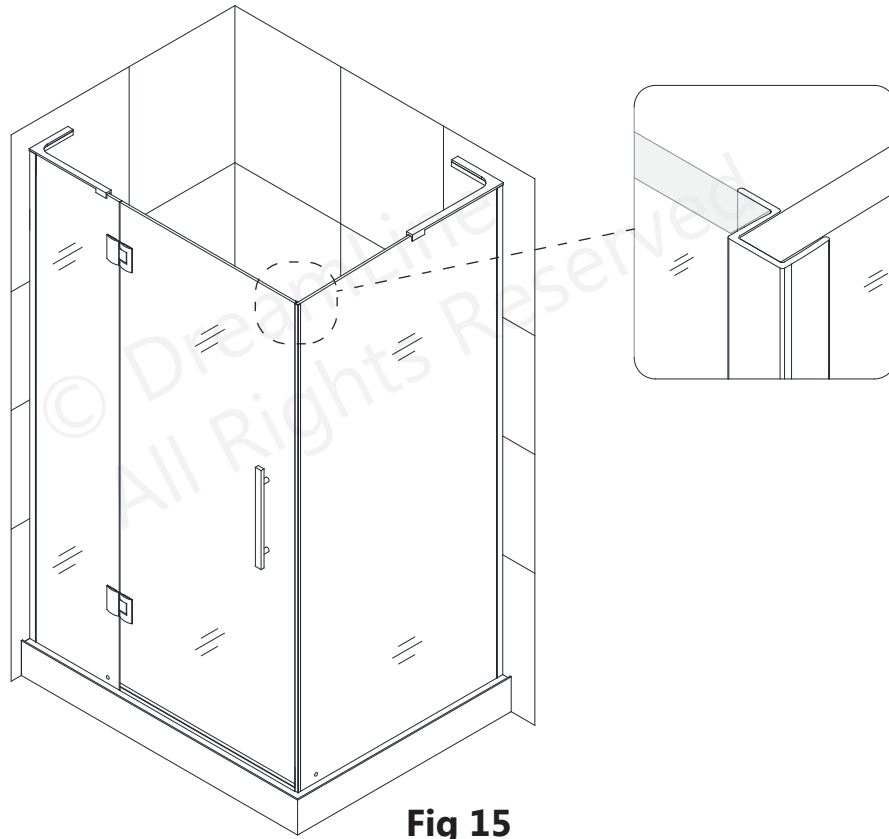

Fig 15
15. Be sure the **Door Glass (#02)** closes evenly and completely against the **Strike Vinyl (#12)**. (**Fig 15**)